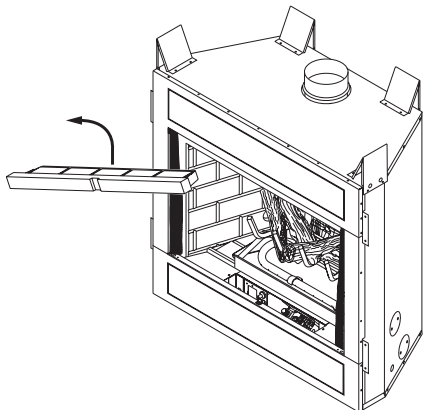

Figure 12 - Removing Front Refractory Access Panel (P325B/VP325 Model Shown)
1. Remove front refractory access panel by lifting up and angling out firebox opening (see Figure 12).
1. Remove front refractory access panel by lifting up and angling out of the firebox opening (see Figure 12) to expose controls.